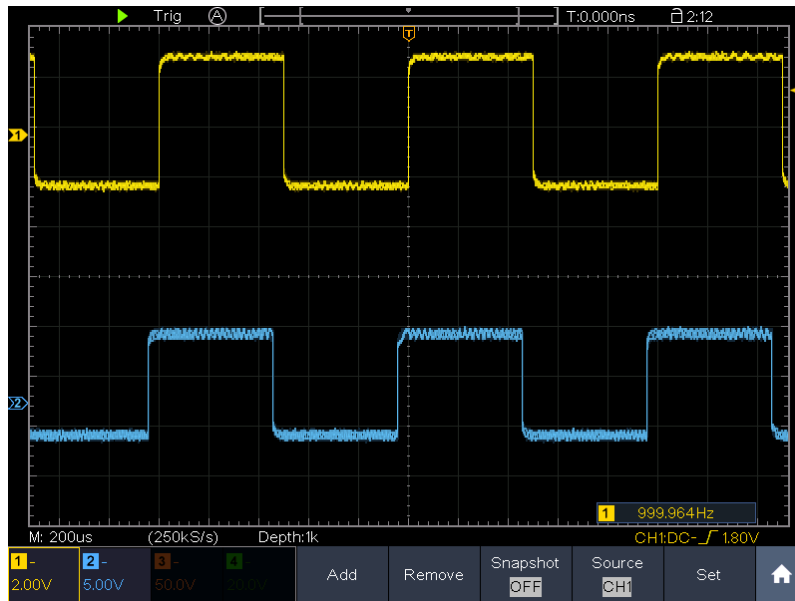

Figure 9-2 Waveform of Gain Measurement
- (1) Push the **Autoset** button and the oscilloscope will automatically adjust the waveforms of the two channels into the proper display state.
- (2) Push the **Measure** button to show the Measure menu.
- (3) Select **Add** in the bottom menu.
- (4) In the left Type menu, turn the **M** knob to select **PK-PK**.
- (5) In the right menu, select **CH1** in the **Source** menu item.
- (6) In the right menu, select **Add**. The peak-to-peak type of CH1 is added.
- (7) In the left Type menu, turn the **M** knob to select **PK-PK**.
- (8) In the right menu, select **CH2** in the **Source** menu item.
- (9) In the right menu, select **Add**. The peak-to-peak type of CH2 is added.
- (10) Read the peak-to-peak voltages of Channel 1 and Channel 2 from the bottom left of the screen (see *Figure 9-2*).
(11) Calculate the amplifier gain with the following formulas.